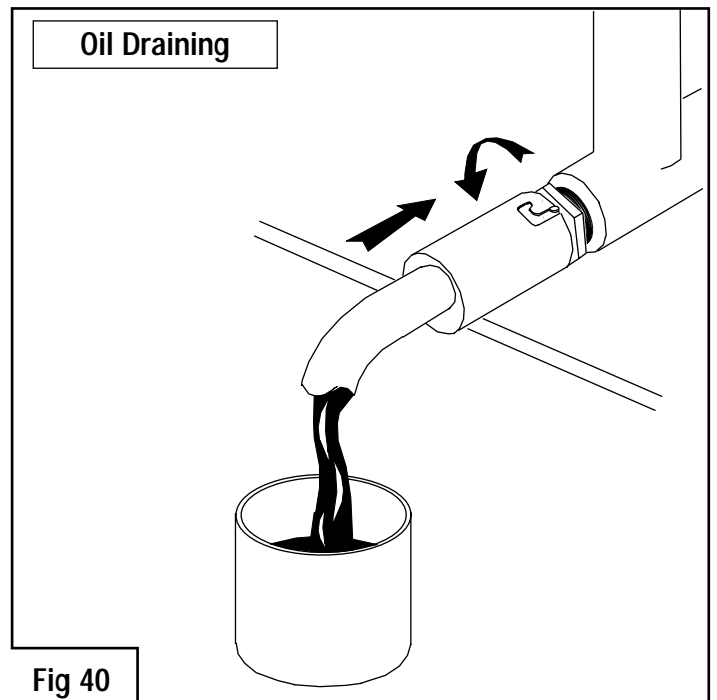

Fig 40
4. Press the adaptor in; turn anti-clockwise and pull to start flow (fig 40).